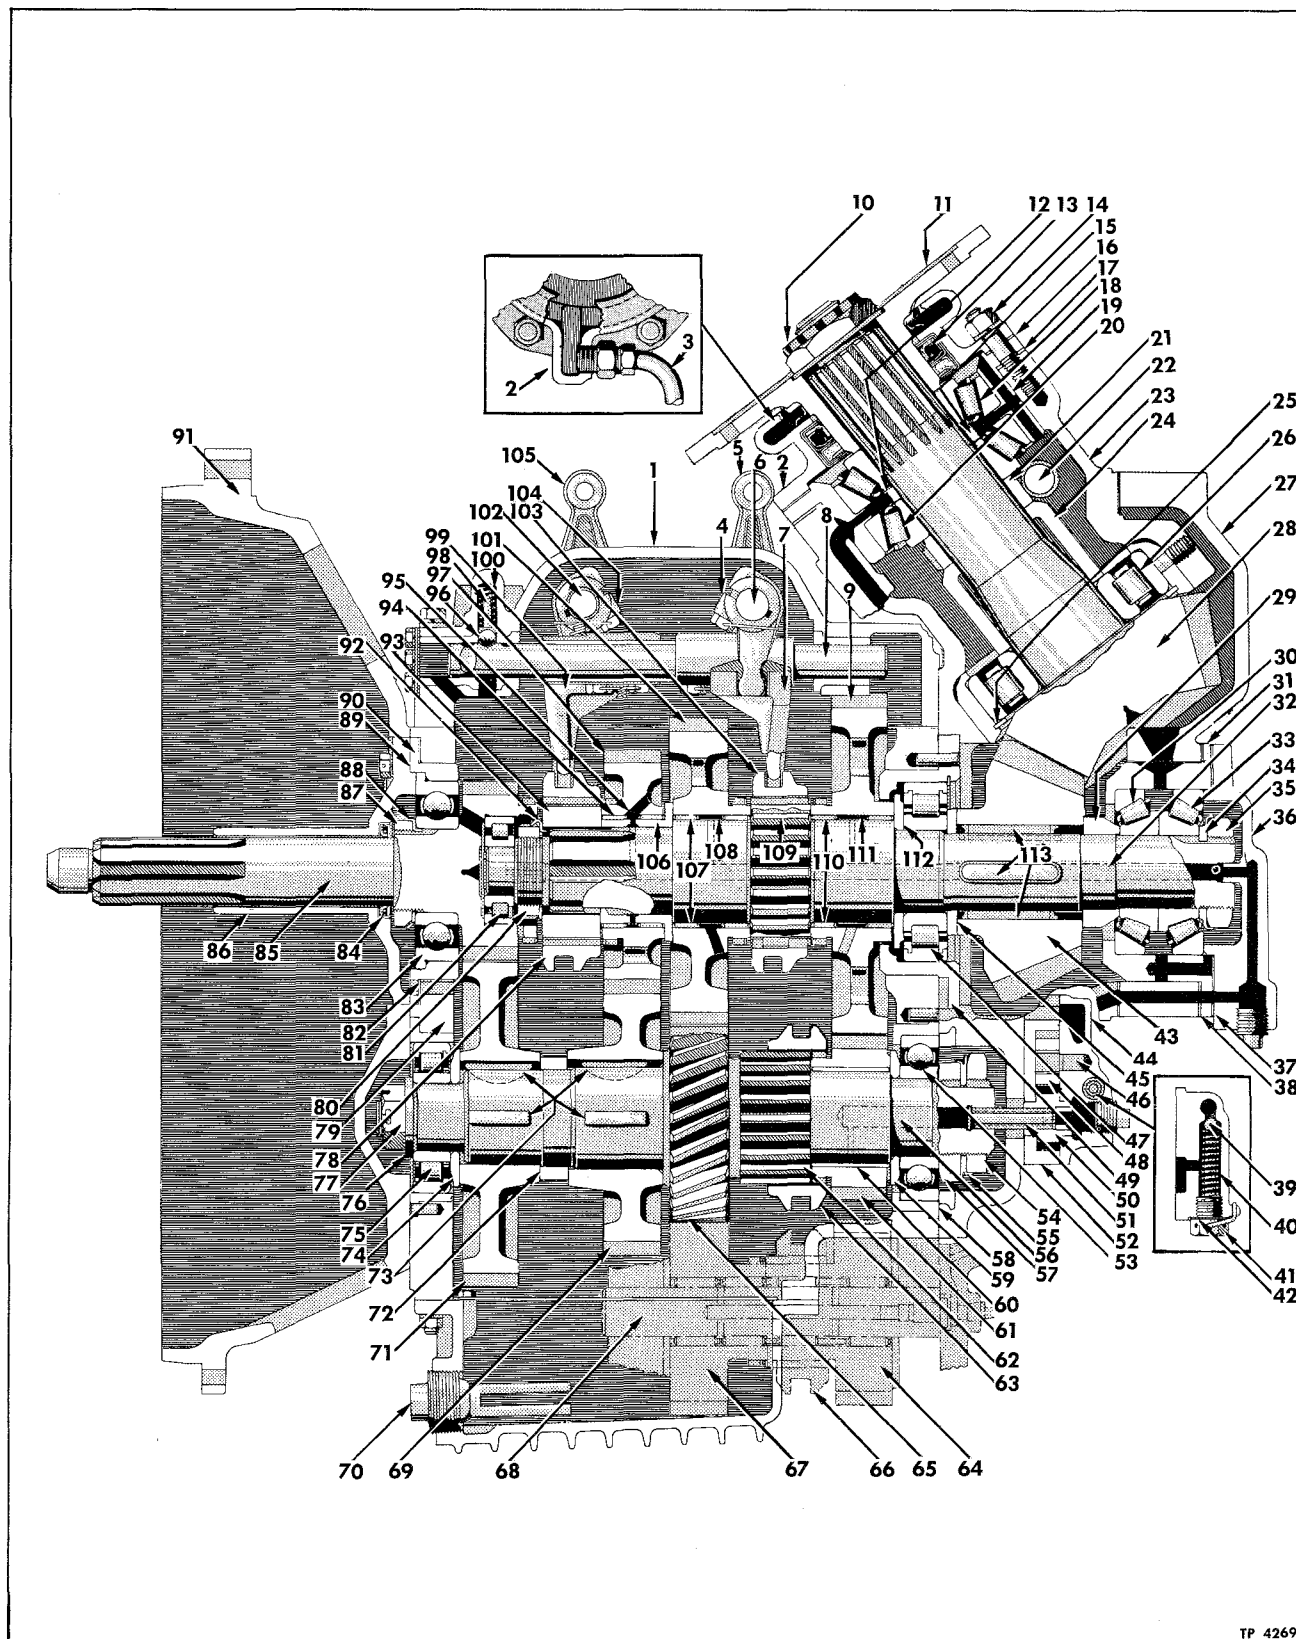

Figure 1—Sectional View of Transmission
Mechanical transmission (fig. 1), has four forward speeds and one reverse. All mainshaft, reverse idler, and countershaft gears have helical cut teeth and are in constant mesh. Interlocking (sliding) clutches with spur teeth on inner diameter slide on corresponding teeth on clutch gears.
The terms "Front" and "Rear" as used in following description and illustrations do not apply to the mounted position of transmission in coach. Following the common usage of those terms - "Front" applies to clutch end of transmission, while "Rear" applies to propeller shaft end. Key numbers in text refer to figures 1 and 2.
Legend for Figures 1 and 2
To shift from neutral into reverse speed, move gear shift lever into first speed position engaging first speed gears. Refer to figure 1. Energize solenoid on transmission by pressing reverse button. Solenoid moves shift finger in transmission cover from first and second speed fork to reverse speed fork. Move gear shift lever into second position which moves reverse shift fork forward disengaging sliding clutch on countershaft and engaging sliding clutch on reverse idler gears. Control button must be held in depressed position until shift into reverse is complete.
1. Place gearshift lever in neutral position; then move transmission gears into neutral position by operating levers (105 and 5 fig. 1).
be inspected and kept free from dirt and grease (fig. 1).